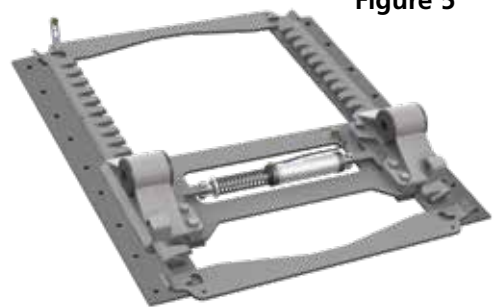

Figure 5
- 2) "Outboard Angle Mount" (bolt-on mounting) (**Figure 5**)